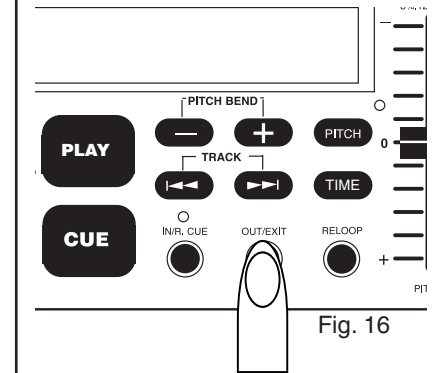

Fig. 16
- (1) To Exit a SEAMLESS LOOP, Press the **OUT/LOOP BUTTON**. The **IN/LOOP** and **OUT/LOOP** LEDs will remain on, but will stop flashing. Music will resume normal play (Fig. 16)
- 1) Press the **OUT/LOOP BUTTON** to return to normal play from the loops cue point. (Fig. 16). This disengages the SEAMLESS LOOP mode and allows you to edit the loops ending point.
- 2) Press **OUT/LOOP BUTTON** again for a new loop ending point (Fig. 16).